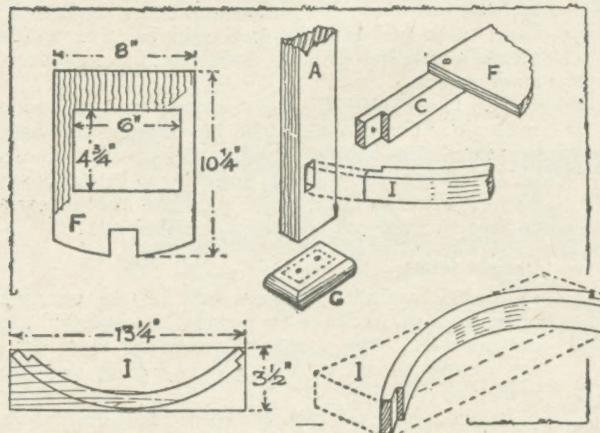

Fig. 3—Details of construction and parts
The four shaped rails forming the front of the stand are made from flat pieces, as the diagrams show at the bottom of Fig. 3.
The board to take the metal drip pan (No. 6144) is shown at F in Fig. 3. Mark this out carefully and cut in a $1\frac{1}{2}$ in. square recess in the front to take the leg.
The two feet (G) are simple pieces of wood cut oblong and with the edges rounded. Two screws each fix these to the rails A. The diagram at the top right of Fig. 3 will be useful in showing the junctions of rails C and I with the upright rail A.